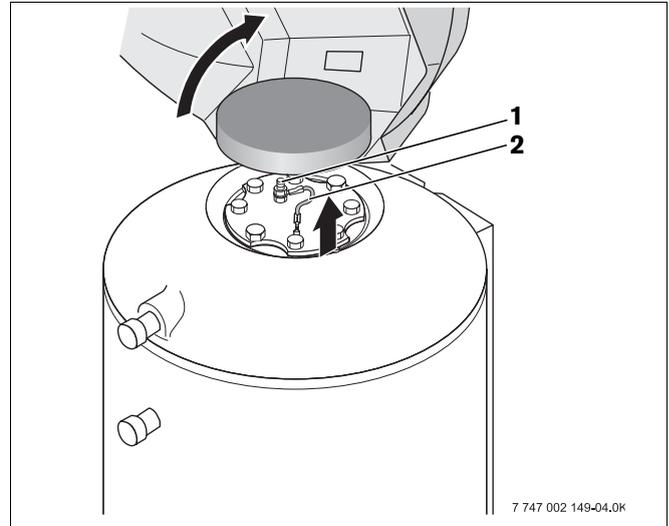

Fig. 7 Checking the magnesium anode connection
- Check that the ground wire (Fig. 7, **Item 2**) of the magnesium anode (Fig. 7, **Item 1**) is connected properly.